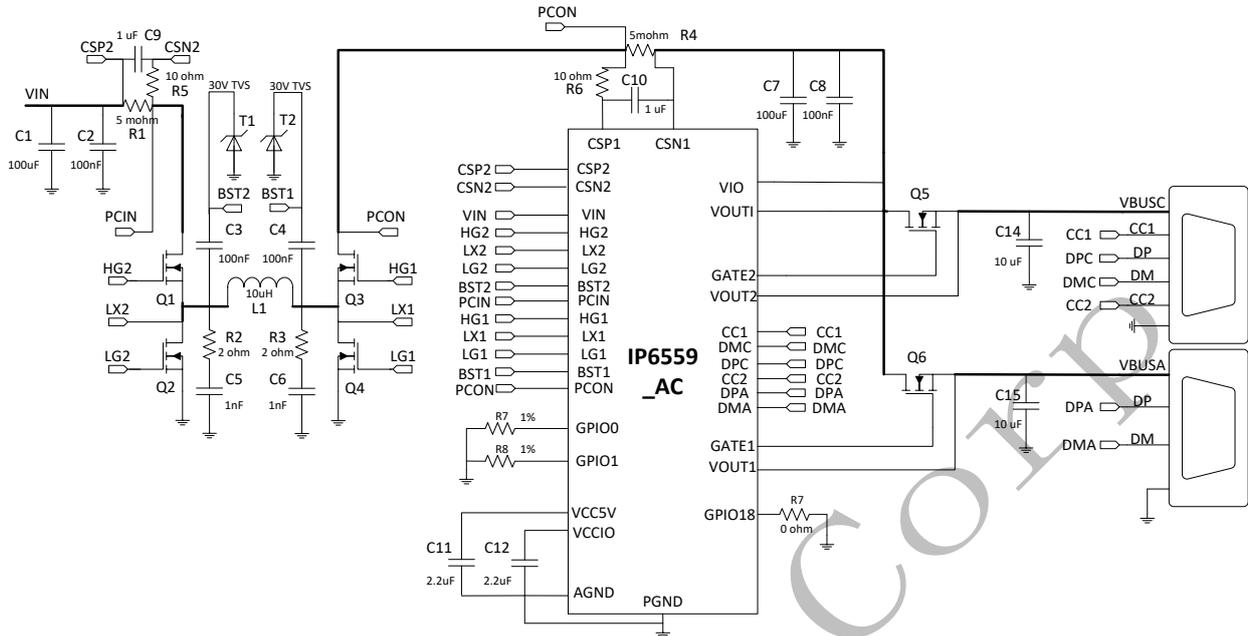

Figure 10. Typical application schematic diagram of IP6559 USB A and USB C dual-port output
2. In Figure 10, adjusting the resistance R7 can change the PDO of IP6559_C port C, and adjusting the resistance R8 can change the output power of IP6559_C port A;